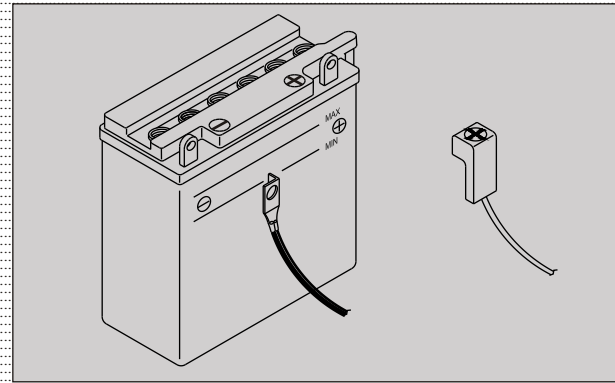

Fig. 5.5
- Apply petroleum jelly on the terminals after the completion of connection and cover positive terminal with the boot. (Fig. 5.5)